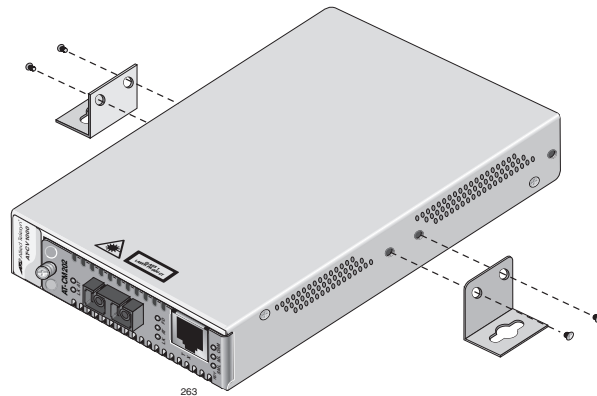

Figure 8. Installing the Wall-Mount Brackets on the Chassis
3. Install the provided wall-mount brackets onto the chassis, as illustrated in Figure 8.